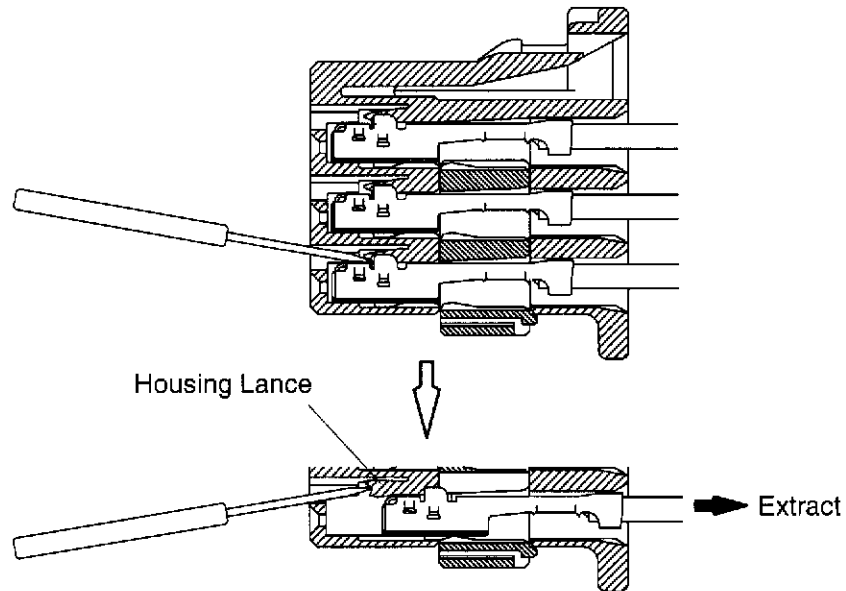

Fig.13
- (1) Confirm the retainer is in pre-assembled condition. When the retainer is in final lock condition, it must be changed to pre-assembled condition. Para. 6.3. The female contact can not be extracted in final assembled condition.
(2) To extract the female contact, pull the wire whilst unlocking the housing lance with a 1mm blade screw driver. Fig.13.